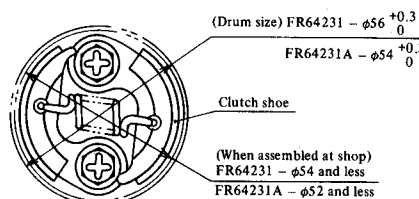

Fig. 18
4.5 Centrifugal clutch (Fig. 18, 19)